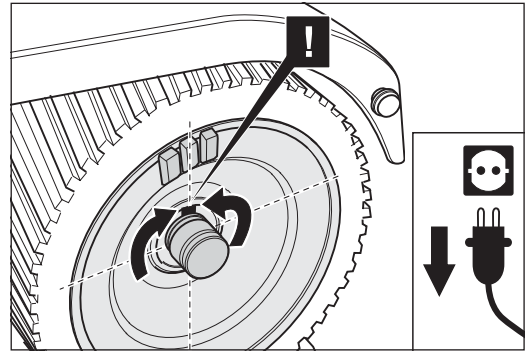

Fig. 88 Turn the sanding drum in such a way that the groove is pointing upwards to ensure that the parallel key is not lost.
- 8 Turn the sanding drum in such a way that the groove is pointing upwards to ensure that the parallel key is not lost (fig. 88). Now pull the sanding drum out sideways out of the housing.